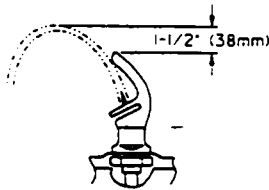

FIG. 5
7. Check stream height from bubbler. Stream height is factory set at 45-50 PSI. If supply pressure varies greatly from this, adjust screw on regulator (Item 9). Clockwise adjustment will raise stream height and counter-clockwise adjustment will lower stream height. For best adjustment stream height should be approximately 1-1/2" (38mm) above the bubbler guard. (See Fig. 5).